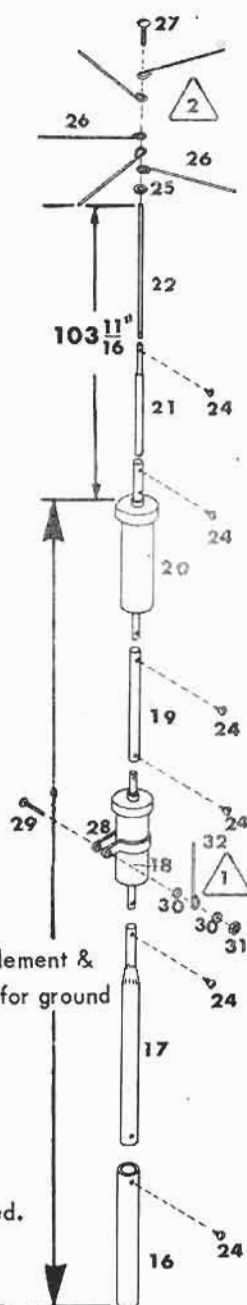

FIG. 4
For above ground installation of the antenna, the length of the radial becomes an important factor in the resonant frequency of the antenna. In this type of installation the frequency of resonances may be slightly raised or lowered by adjusting the length of the radial which operates on the band on which the frequency change is required. By lengthening the radial, the resonant frequency will be lowered. By shortening the radial, the frequency will be raised. The downward slope of the radial is to be held to a minimum. The further or greater the angle from horizontal the longer will be the radial requirements, therefore, the length given in Fig. 1 may change with each individual installation. For above ground installation, assembly of the vertical element is shown in Fig. 4. IT IS ADVISABLE THAT THE SUPPORTING MAST BE UN-GROUNDED. The mast can be from 1 1/4 in. to 2 in. OD.
(See Fig. 4 For Above Gnd. Mtg.)
(A) - For the low end of the band, install 3 Top Hat Radials cut to 8" long as in Fig. 4. More or fewer Top Hat Radials may be required depending on installation. Radial requirement is about 24 ft. 7 in.